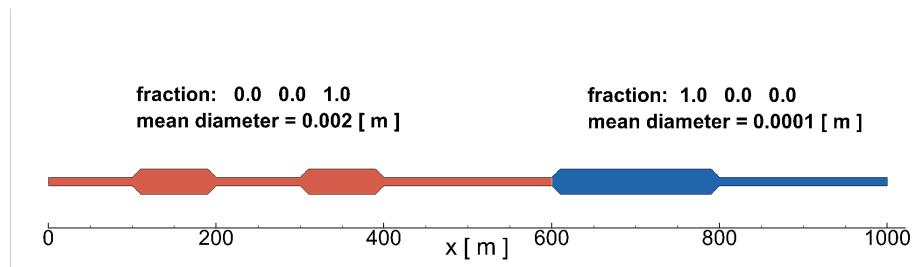

Figure 1.2: Initial mean diameter in the active layer due to the distribution of the grain classes
This dredging field is located between meter 100.5 and meter 300.5 of a flume. The area of the field is 200 x 5 = 1000 m². In this part of the flume only coarse material (d=2 mm) is present (fig. 1.2). The date when the simulation starts is set in the GAIA steering file gai_nestor1.cas through the keywords:
- The grain composition (fig. 1.2) in the left part of the flume consists completely of the grain class 1 ($d = 0.1 \text{ mm}$). The right part consists completely of the grain class 3 ($d = 2.0 \text{ mm}$). Grain class 2 is not present. These are preprocessing settings which are set in the PREVIOUS SEDIMENTOLOGICAL COMPUTATION FILE.